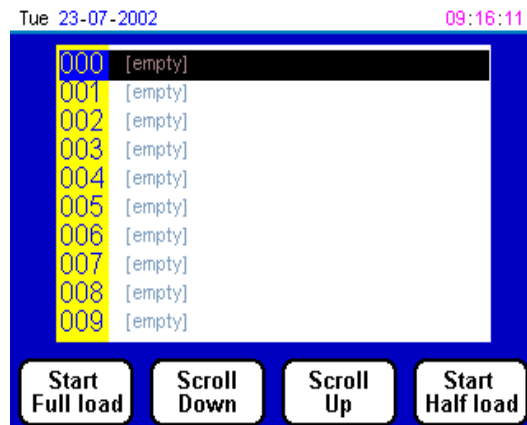

FIG 2
2. Press (4) and program list appears (see fig 2). (If oven has not been programmed go to section 12 - programming).
7. This will now take you back to program screen (Fig 2).
**NOTE:** During heating (1) can be pressed at any time to check settings.
Click on first box under the heading program list, (as can be seen in fig 2) enter your program name and select phase time, bake temperature, power level, steam time, fan cycles, fan dwell and damper delay. This can be repeated up to 99 times just by clicking on next box below. It is now important to save the file to disk. (See section 4 saving)